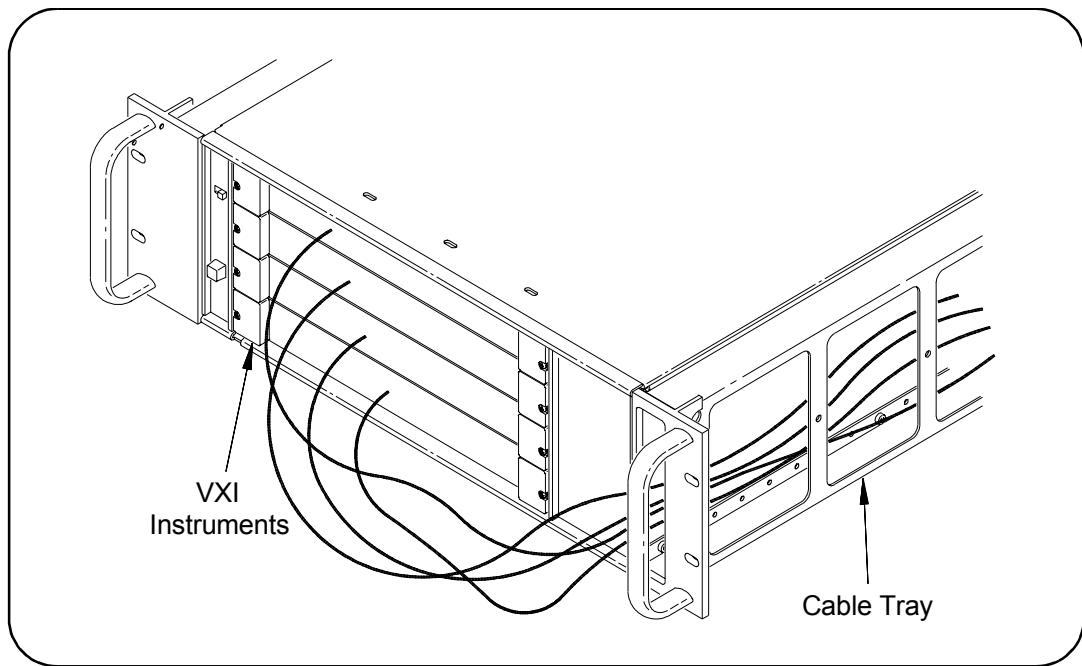

Figure 2-9. Routing VXI Instrument Cables
- 2 Select the holes for the LH and RH Rack Mount Adapters. See Figure 2-9 for the RH Rack Mount Adapter hole locations. (LH Rack Mount Adapter hole locations are the same.)
Install Rack Slide Stationary Sections (Figure 2-9)